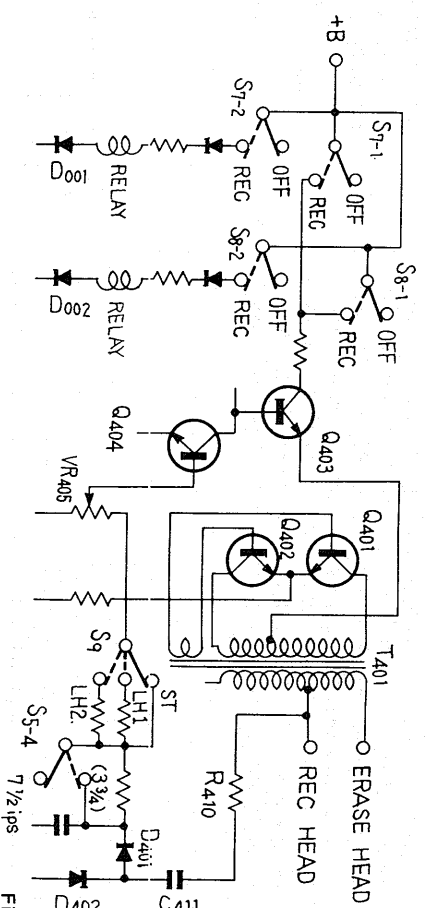

Fig. 3
When operating the REC switches (S7 and S8), i.e., the stereo recording, the +B voltage is fed to the oscillator circuit and the current flows to the light-emitting diodes (D001, D002) through relays simultaneously and recording is indicated (Fig. 3).
3.3 OSCILLATOR CIRCUIT (Fig. 3)